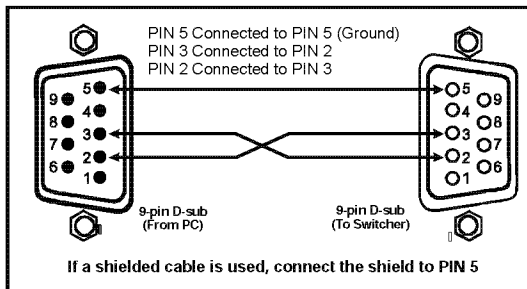

Figure 5: Connecting a PC without using a Null-modem Adapter
- Connect the RS-232 9-pin D-sub port on your PC to the RS-232 9-pin D-sub rear panel port on the **VP-81K** unit, forming a cross-connection¹, as Figure 5 Illustrates